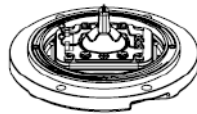

Figure 5-14
- Take out the prism and its gasket sleeve from the upper cover and load the new prism gasket sleeve and prism into the upper cover in succession (see Figures 5-14)
- Install the prism pressing bracket and screw it with the M5×16 screws (see Figure 5-14).